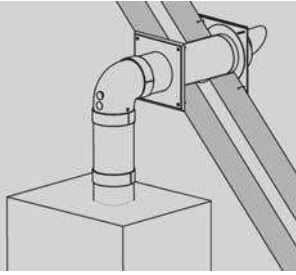

Figure 4.14 Concentric connection
7. Connect the flue terminal to the appliance with appropriate flue pipe and fittings instructions: Install the concentric vent in accordance with the installation instructions supplied with the straight vent sections. See figure 4.14.